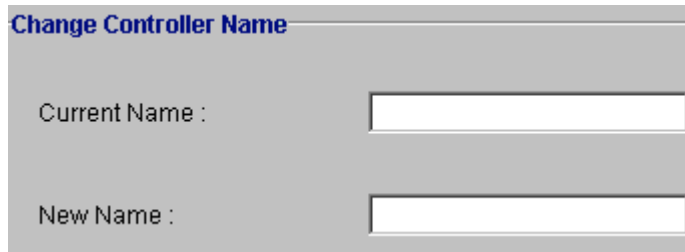

Figure 6-14: Change Name
- ◆ **Name:** A user-configurable identifier for the controller. Note, the name and password fields combined have a maximum size of 16 characters. See *Figure 6-14*.